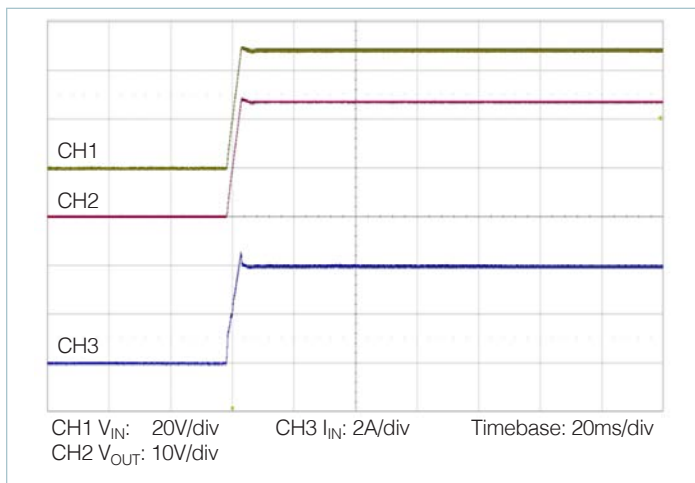

Figure 13 — Start up from application of  $V_{IN}$ ; VC pre-applied  $C_{OUT} = 375\mu\text{F}$
- **Normal operation (VC applied prior to  $V_{IN}$ ):** In this case the controller is active prior to ramping the input. When the input voltage is applied, the VTM module output voltage will track the input (See Figure 13). The inrush current is determined by the input voltage rate of rise and output capacitance. If the VC voltage is removed prior to the input reaching 26V, the VTM may shut down.